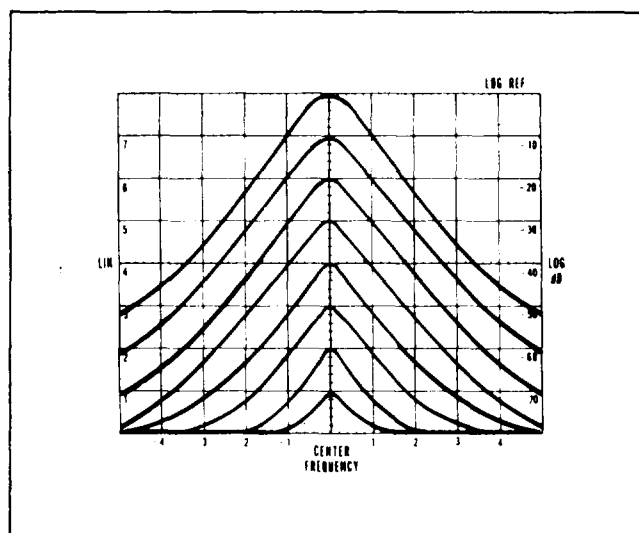

Figure 4-2. Vertical Gain Adjustment
g. Adjust the LOG REF LEVEL controls so the maximum signal amplitude is exactly on the -70 dB graticule line. (Adjust AMPL CAL signal level if necessary.) Rotate LOG REF LEVEL control seven steps in the clockwise direction. The amplitude of signal should increase in increments of one division per 10 dB step. See Figure 4-2.